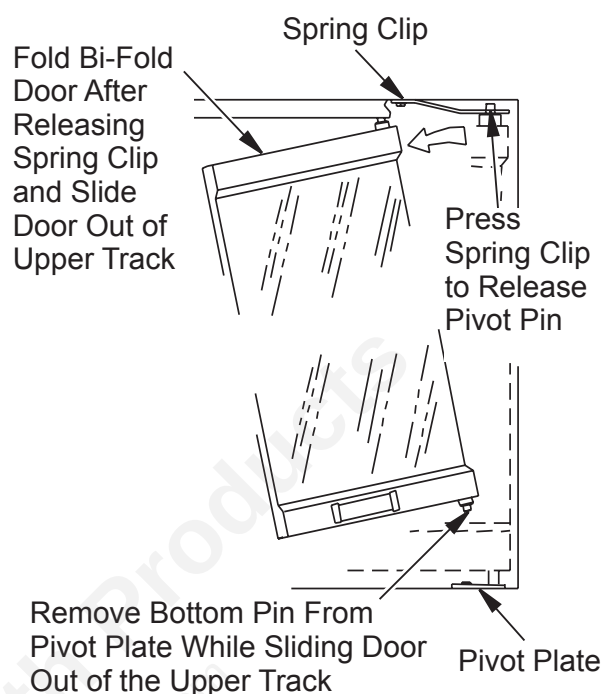

Figure 34 - Removing Glass Doors
- Fully fold frame assembly and slide upper edge towards center of firebox opening until guide pins are free of frame rail (see Figure 34).